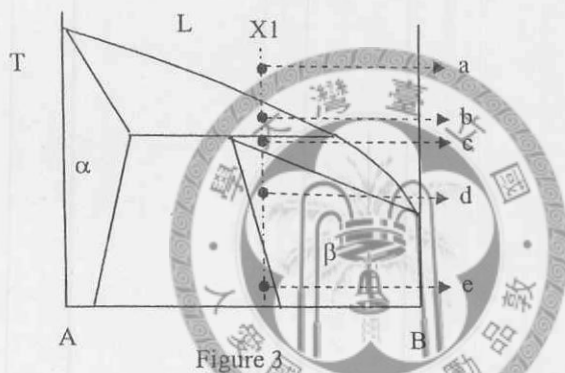

Figure 3
- 2) Draw the schematic representations illustrating how the equilibrium microstructure evolves, i.e., the microstructure corresponding to state a, b, c, d, and e, for the alloy of composition X1 (as shown in Figure 3) cooled slowly from liquid phase to room temperature. (5%)